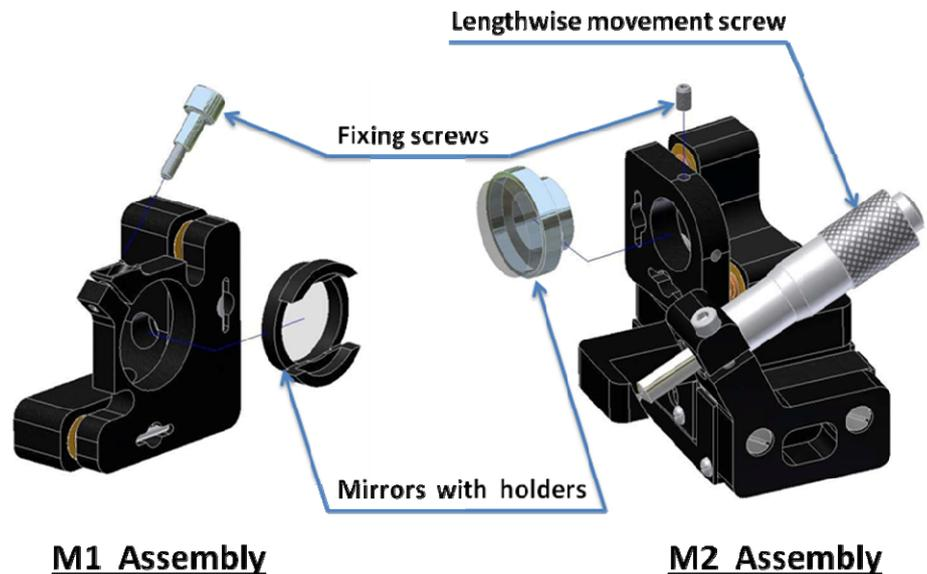

Fig. 6 M1 and M2 assembly
8. Remove M1 and M2 mirrors with holders from their mounts. (**Fig. 6**)
18. Install M1 mirror with the holder to its mount (**Fig. 6**).